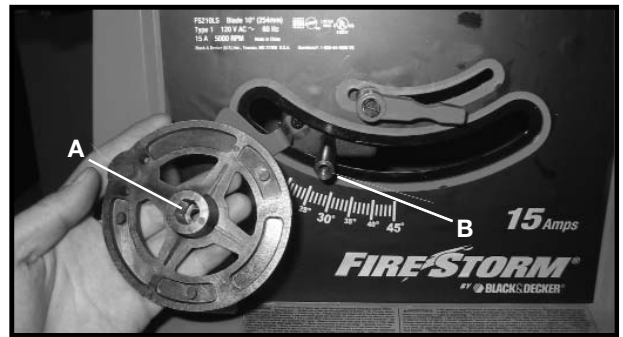

Fig. 12
3. Assemble handwheel (A) Fig. 12, to shaft (B) making sure the flat on inside of handwheel lines up with flat on shaft.
4. Fasten handwheel (A) Fig. 13, to shaft (B) Fig. 12, using a M6x1x12mm flat head screw (C) Fig. 13.